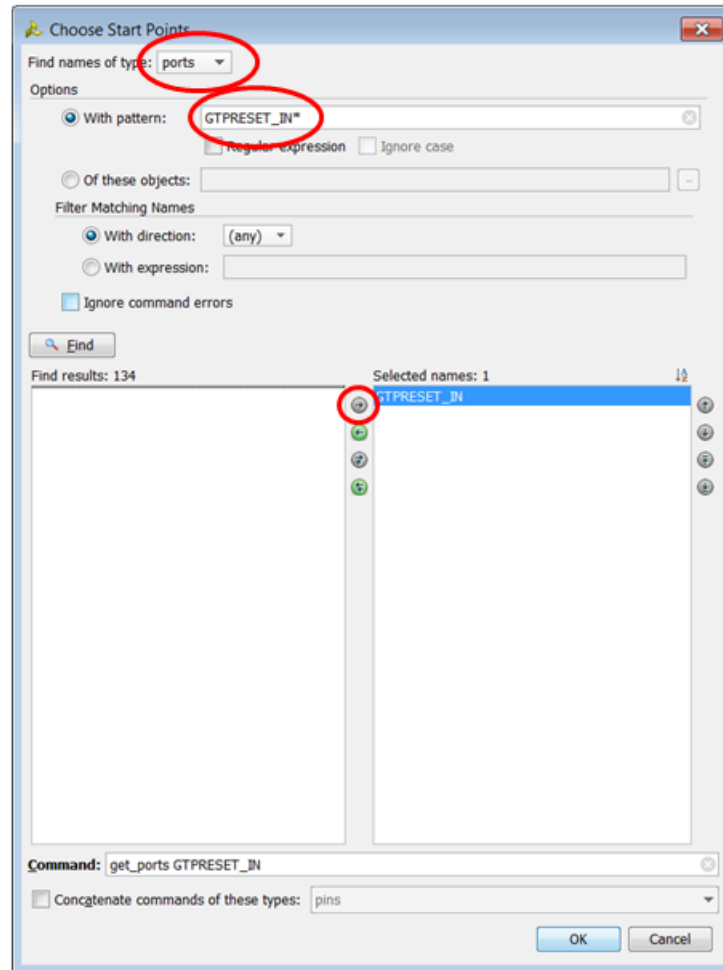

Figure 15: Choose Start Points Window for set_false_path Dialog Box
7. A Choose Start Points window will appear. In this window change the pull-down **Find names of type** to **ports** as shown in Figure 15.